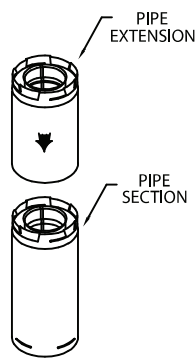

Figure 15
(1) If exact lengths or distances must be met between Elbow offsets or elsewhere, use the Pipe Extensions to adjust onto standard Pipe Sections (Fig. 15).
(2) If an offset is necessary in the attic